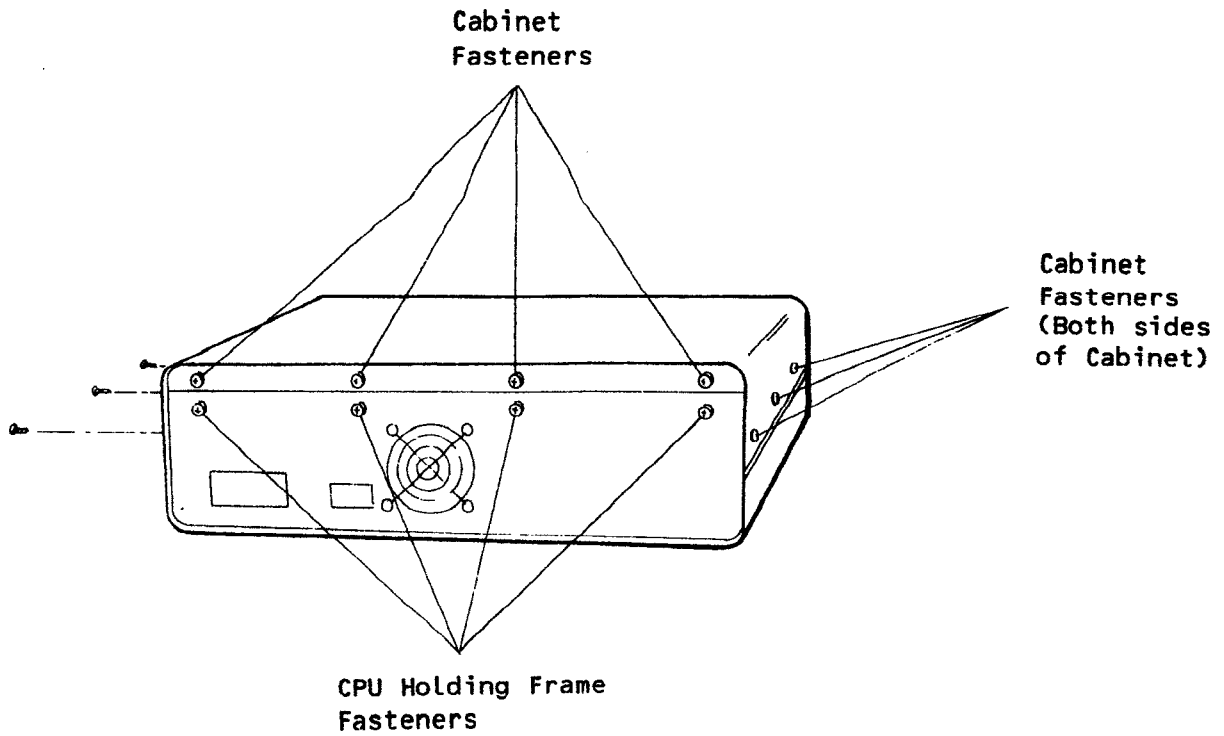

Figure 1. Fastener Locations
1. The AM-1000 cabinet top is fastened by six hex screws and four Phillips-head screws. The six hex screws are on the sides of the AM-1000, three per side. The Phillips-head screws are on the back panel of the AM-1000, near the lip where the top cover overlaps the back panel (see Figure 1).